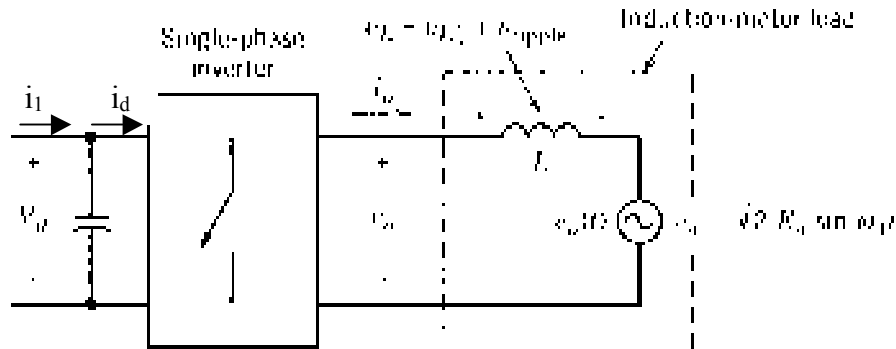

Figure 4 Full bridge inverter
- 3.3 (10) Calculate the minimum value of the filter inductance.
4. Given is a single-phase full bridge dc/ac voltage source converter that is connected to a single phase induction motor with counter emf  $e_0$ , as shown in Figure 4. The output voltage  $v_0$  of the inverter is obtained by bipolar voltage switching. To obtain a low distortion linear modulation is applied.